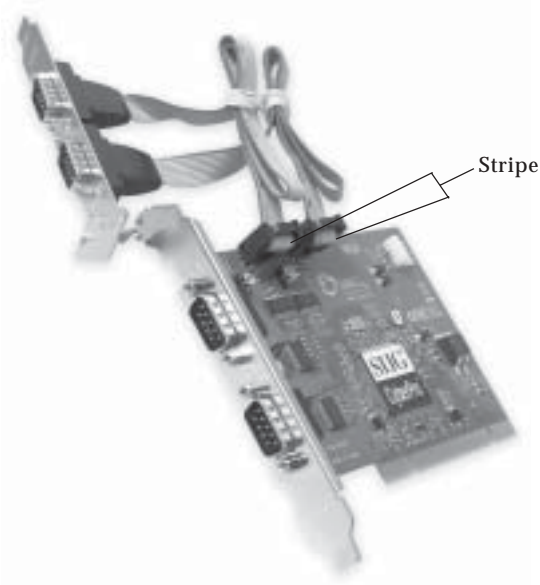

Figure 2. Connecting the Ribbon Cable
5. If you need four serial ports, connect the 2-port ribbon cable connector now. See **Figure 2** on page **3** for more details. Skip this step if you only need two serial ports.